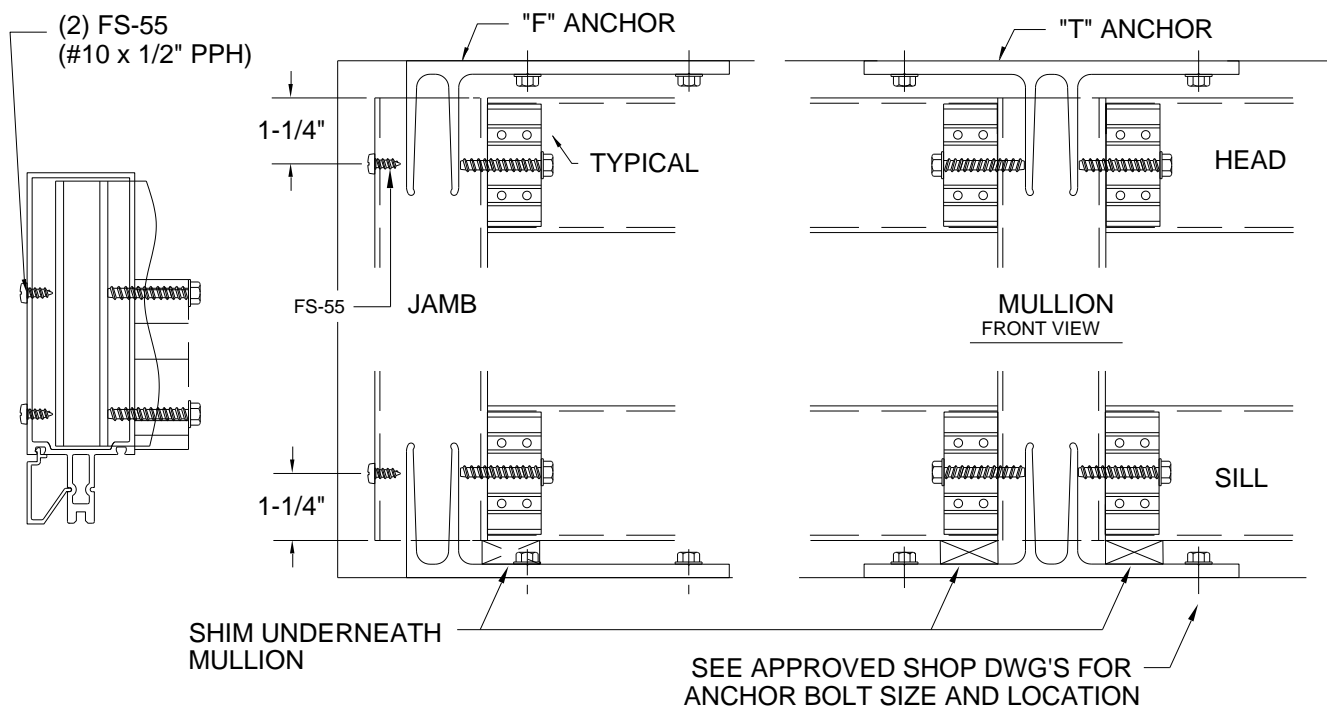

Figure 11: Head & Sill Anchors
- 9.1 Install "F" or "T" anchors at the sill condition prior to setting mullions, see *Figure 11*. Each anchor must be anchored with a minimum of two anchor bolts. See approved shop drawings for bolt size and location.